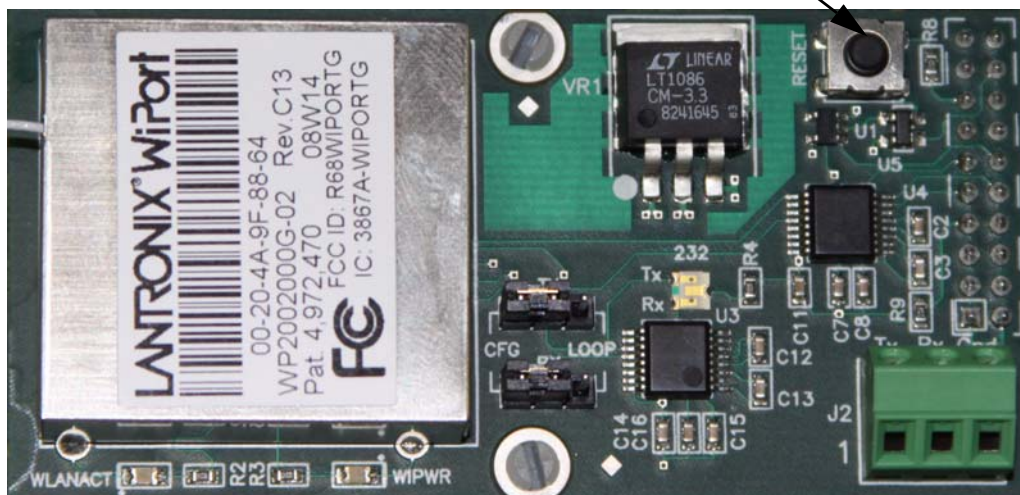

Figure 8-8. Manual Reset Button location on WLAN option card
6. Reset the WLAN option card by pressing the manual reset button shown in Figure 8-8, and immediately upon release, enter three lowercase x characters (xxx) at the same time.